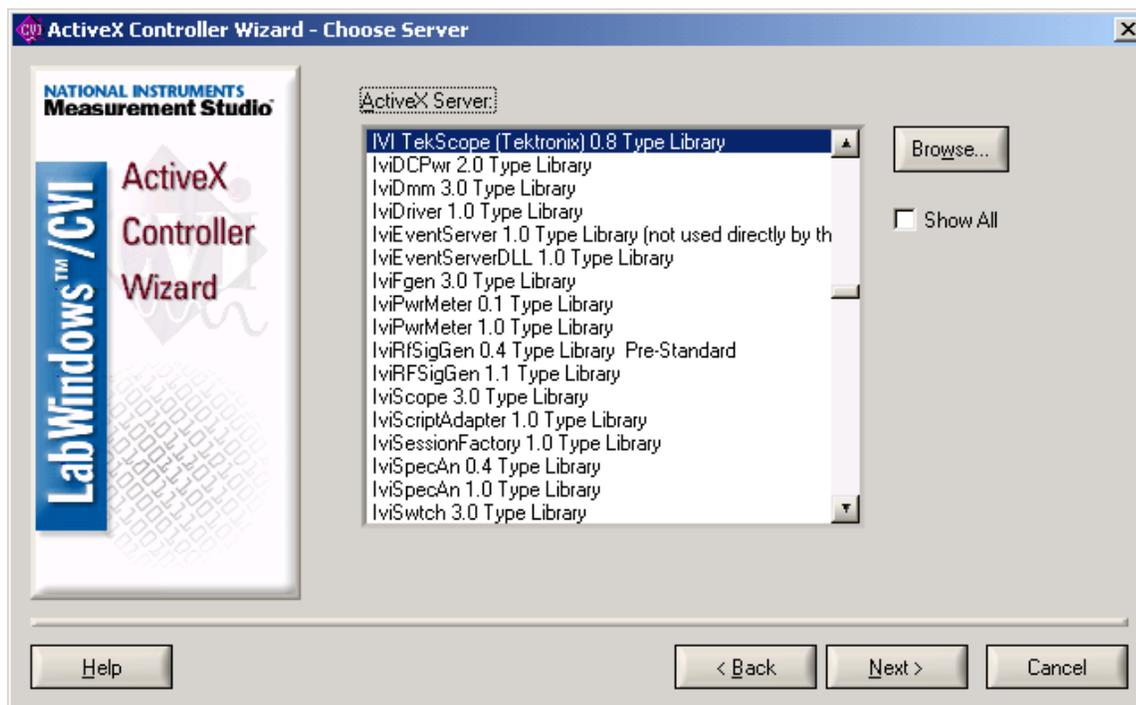

Figure 2: The ActiveX Controller Wizard – Choose Server
Step 1 will bring up the *ActiveX Controller Wizard – Welcome* dialog. Click on the **Next** button in this dialog. The *ActiveX Controller Wizard – Choose Server* dialog box then comes up. This dialog lists all the ActiveX servers registered in the machine. From the list, select the TekScope IVI-COM driver, as shown in Figure 2, and click on **Next**.